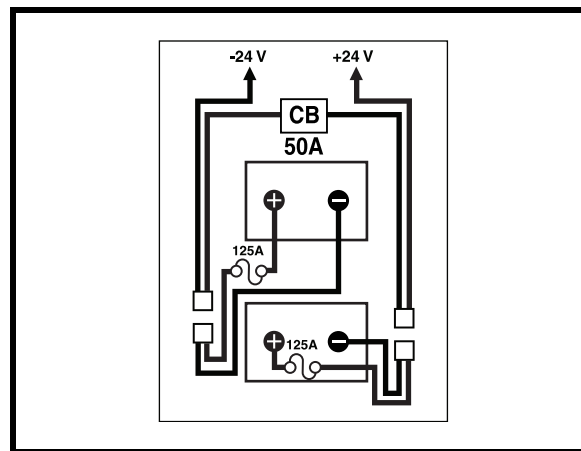

Figure 25. Battery Wiring Diagram Label
A diagram is printed on a decal located on the power chair frame near the battery tray. See figure 25. See the specification table for correct battery specifications.
5. Locate the battery quick disconnects on the frame and disconnect both of them. See figure 25.
8. Reinstall the wiring harnesses on each battery. Make sure that you connect the red wire to the positive (+) battery terminal and the black wire to the negative (-) battery terminal. See figure 25.
10. Connect the battery quick disconnects according to the battery wiring diagram label. See figure 25.